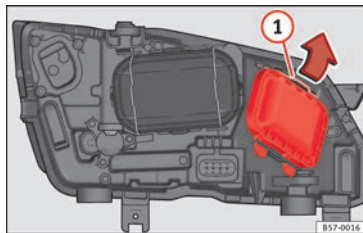

Fig. 107 In the engine compartment: remove the lid.
2. Move the loop » **Fig. 107** ① in the direction of the arrow and remove the cover.
2. Move the loop » **Fig. 107 ①** in the direction of the arrow and remove the cover.